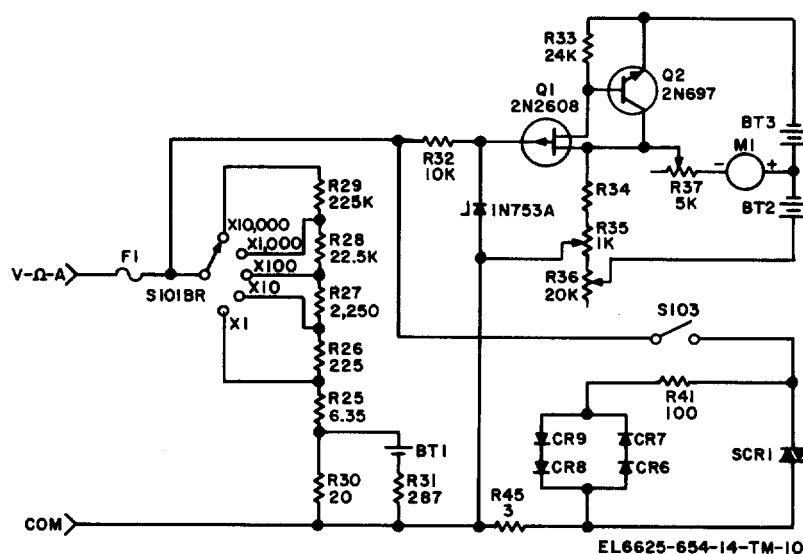

Figure 4-6. Simplified ohmmeter circuit.
*a. Circuit Description.* Figure 4-6 illustrates a simplified schematic diagram of the ohmmeter circuit. An open circuit potential of less than 120 millivolts for "safe" measurements in solid state circuitry is provided. This is obtained by dividing down the 1.5-volt potential of battery BT1 with a voltage divider made up of resistors R30 and R31. The operating potential of 120 millivolts is developed across R30. The positive end of the battery is connected to the COM terminal. The negative end of R30 (negative ohmmeter supply